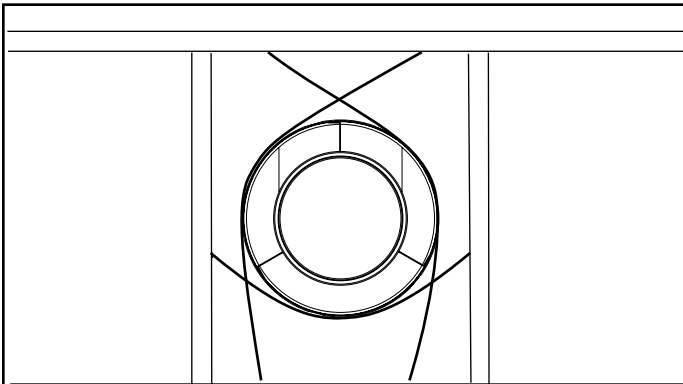

Figure 10.9 Securing Vertical Pipe Sections
- Vent support or plumber's strap (spaced 120° apart) may be used for support. See Figures 10.9 and 10.10.